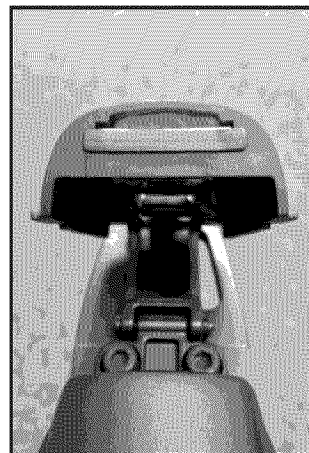

Figure 1
CHANGING THE BATTERY (See Figure 1 & 2)
- Remove the soft protection pad by pulling up on one of the side tabs. (See Figure 1).